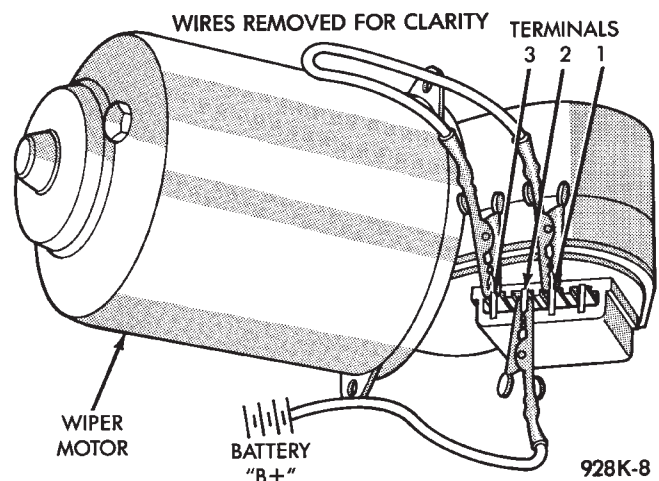

Fig. 11 Jumper Wire Between Terminal 1 and 3
(1) Remove wiring harness. Connect jumper from Terminal 1 to Terminal 3 of wiper motor (Fig. 11).